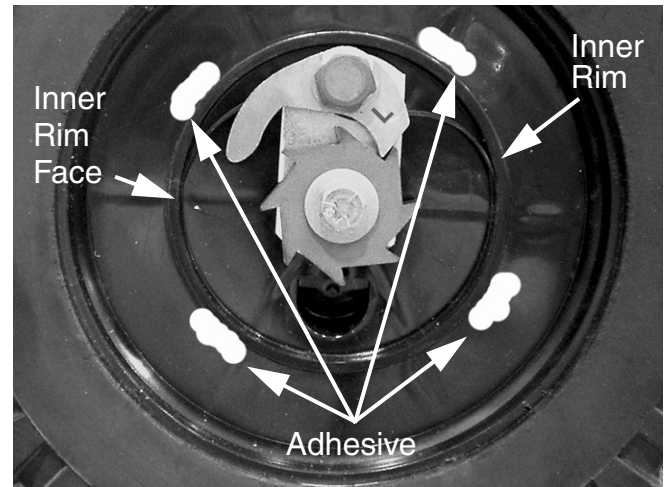

FIGURE 7
20. Apply 4 thin beads, 1/2" to 5/8" long, 90 degrees apart around the outside of the inner rim of 3M Scotch-Weld 1099 plastic adhesive (order P/N 721-04305) See Figure 7.